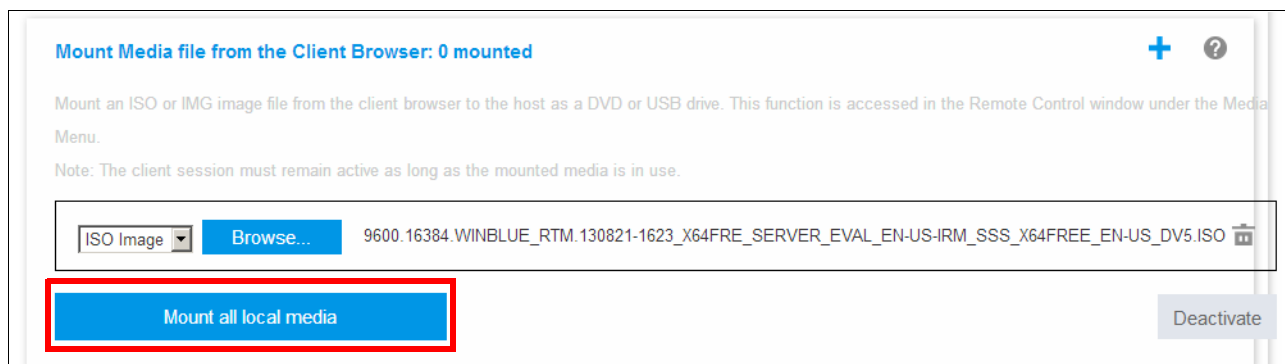

Figure 6-7 Mounting the ISO file
11. Click the **Mount all local media** button as shown in Figure 6-7.